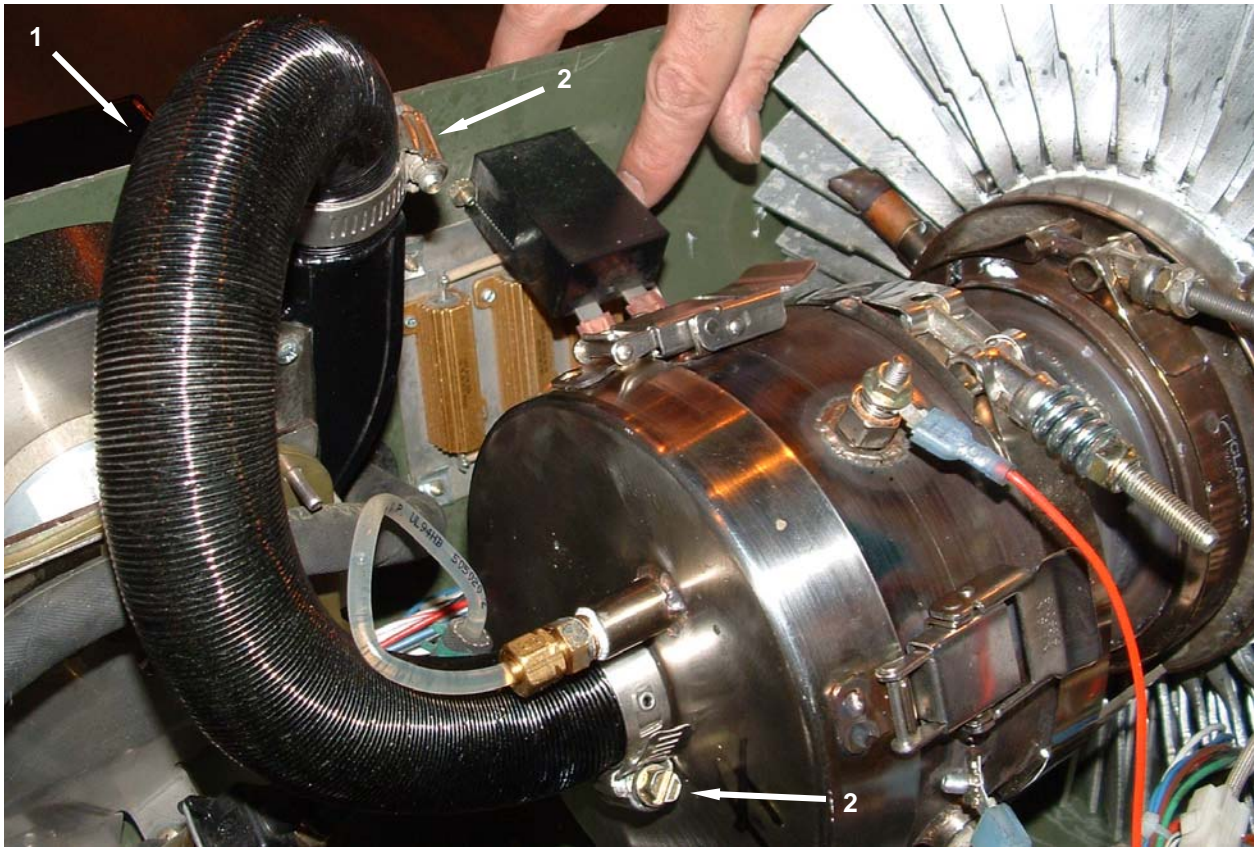

Figure 5. Replace the Fuel Pump Assembly.
21. Install combustion air blower fan hose (**Figure 5, Item 1**) and tighten hose clamps (**Figure 5, Item 2**).